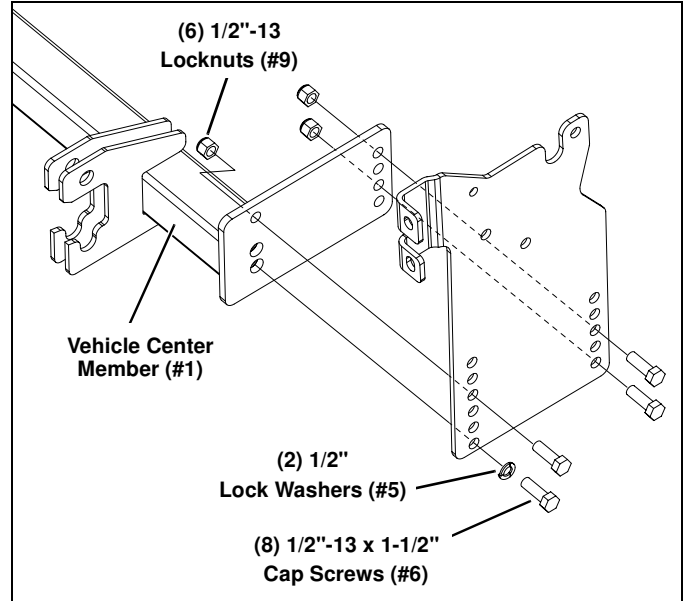

Figure 11
8. Secure the Vehicle Center Member using (8) 1/2"-13 x 1-1/2" Caps Screws (#6), (2) 1/2" Lock Washers (#5) and (6) 1/2"-13 Locknuts (#9). (See Figure 11.)